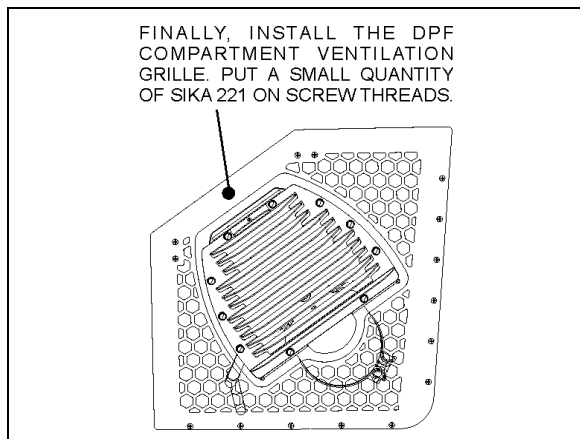

FIGURE 9: DIFFUSER POSITION ADJUSTMENT 04015\_3
5. Reinstall the DPF compartment grille. Put a small quantity of Sika 221 on screws (fig.9).